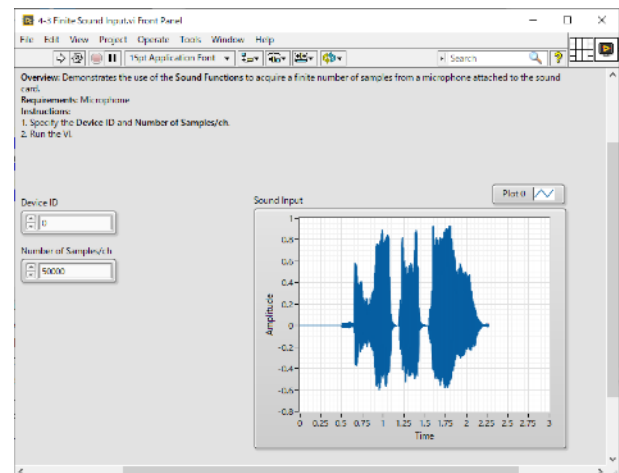
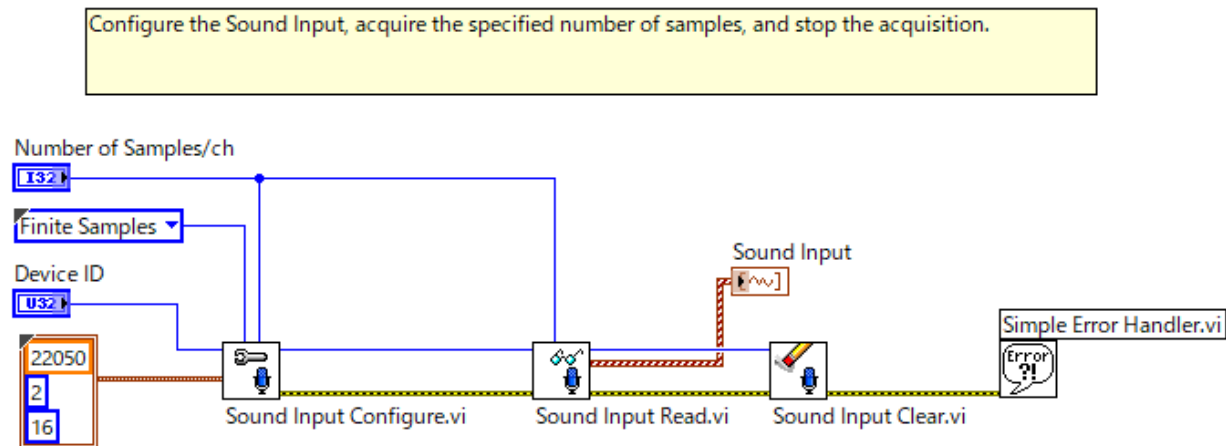

Figure 4-15 Finite Sound Input.vi
Figure 4-16 Block diagram of Finite Sound Input.vi
Then, **Finite Sound Input.vi** will open. Save it to your working folder. Enter "0" in **Device ID** and "50000" in **Samples / ch**, and press the **Run** button while talking to the microphone. The audio data should be displayed on the graph for approximately 2.2 seconds, as shown in **Figure 4-15**. Please note that the data is not recorded for about 0.5 seconds from the beginning. Looking at the block diagram (**Figure 4-16**), you can see that it was recorded with a sampling frequency of 22050Hz, 2 channels, and 16-bit precision. Note that the icons are, from left to right, (1) spanner (input setting) → (2) glasses (input data) → (3) eraser (clear).